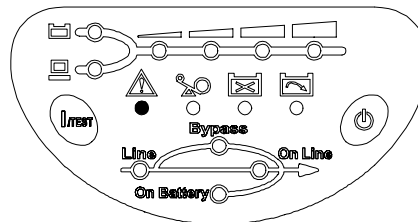

Fig 4-9 Short Circuit
- SHORT CIRCUIT:** When the output of the UPS shorts in “ON-LINE mode” or “ON-BATTERY mode”, the UPS will shut down (without output voltage). As soon as the short circuit is happened, the fault LED will light on and the UPS alarm will sound continuously. When remove short circuit, the UPS output will recover. If short circuit is happened in “BYPASS mode”, the UPS will protect itself by tripping the input breaker and shut down. Shown as fig 4-9.